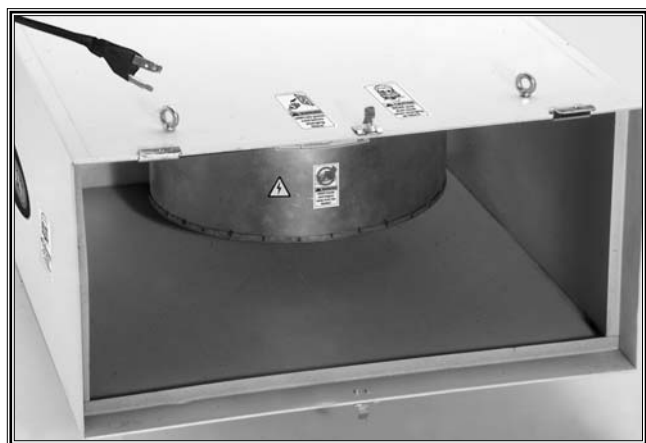

Figure 16. Air cleaner housing.
4. Vacuum out the inside of the air cleaner housing. See Figure 16.